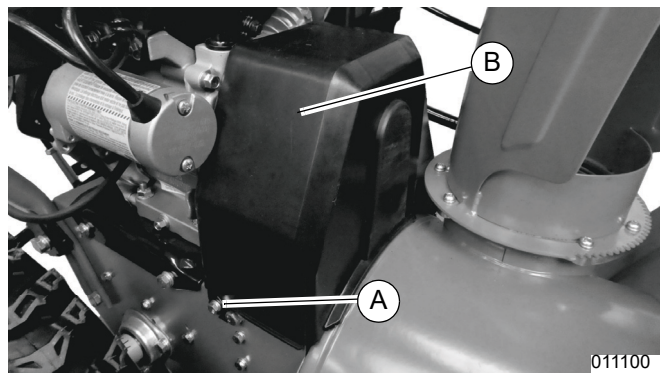

Figure 4-5. Removing Belt Cover
1. See **Figure 4-5**. Remove the two bolts and rectangular washers (A) from belt cover (B) using a 10mm wrench. Remove belt cover.